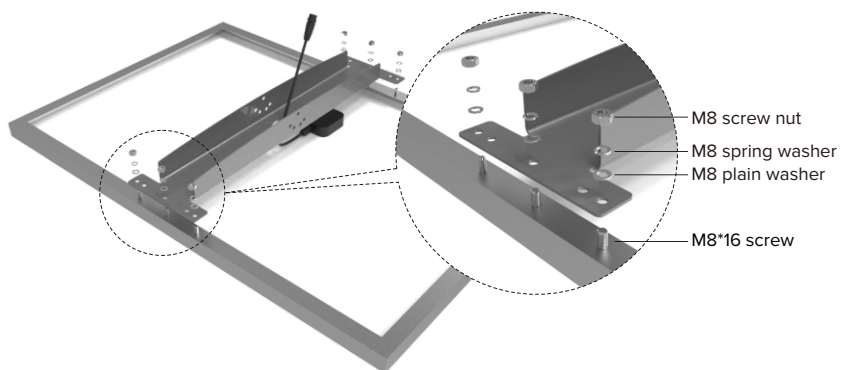

Figure 1
- 1 Fasten the U-type bracket to the solar panel frame, see figure 1, the accessories are M8\*16 screw, M8 screw nut, M8 plain washer, M8 spring washer.